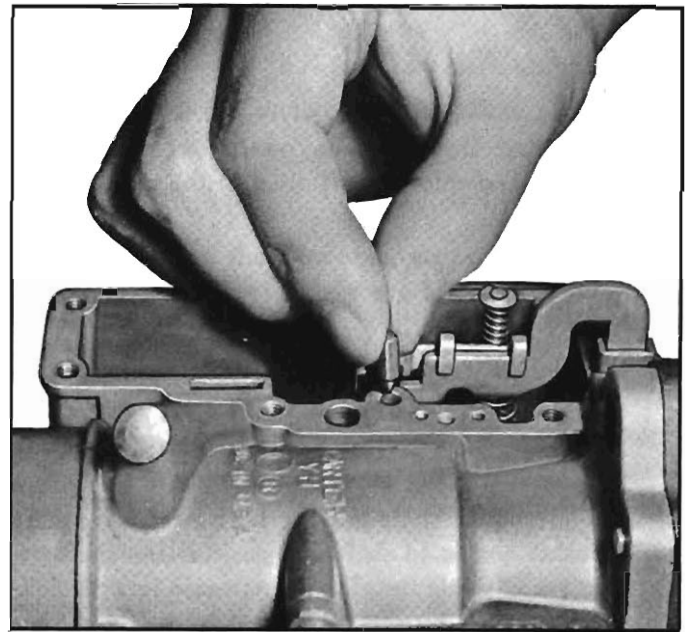

Fig. 38—Install Pump Discharge Needle
13. Install pump discharge needle (fig. 38) then install a new cover gasket on bowl and install bowl cover and six screws.